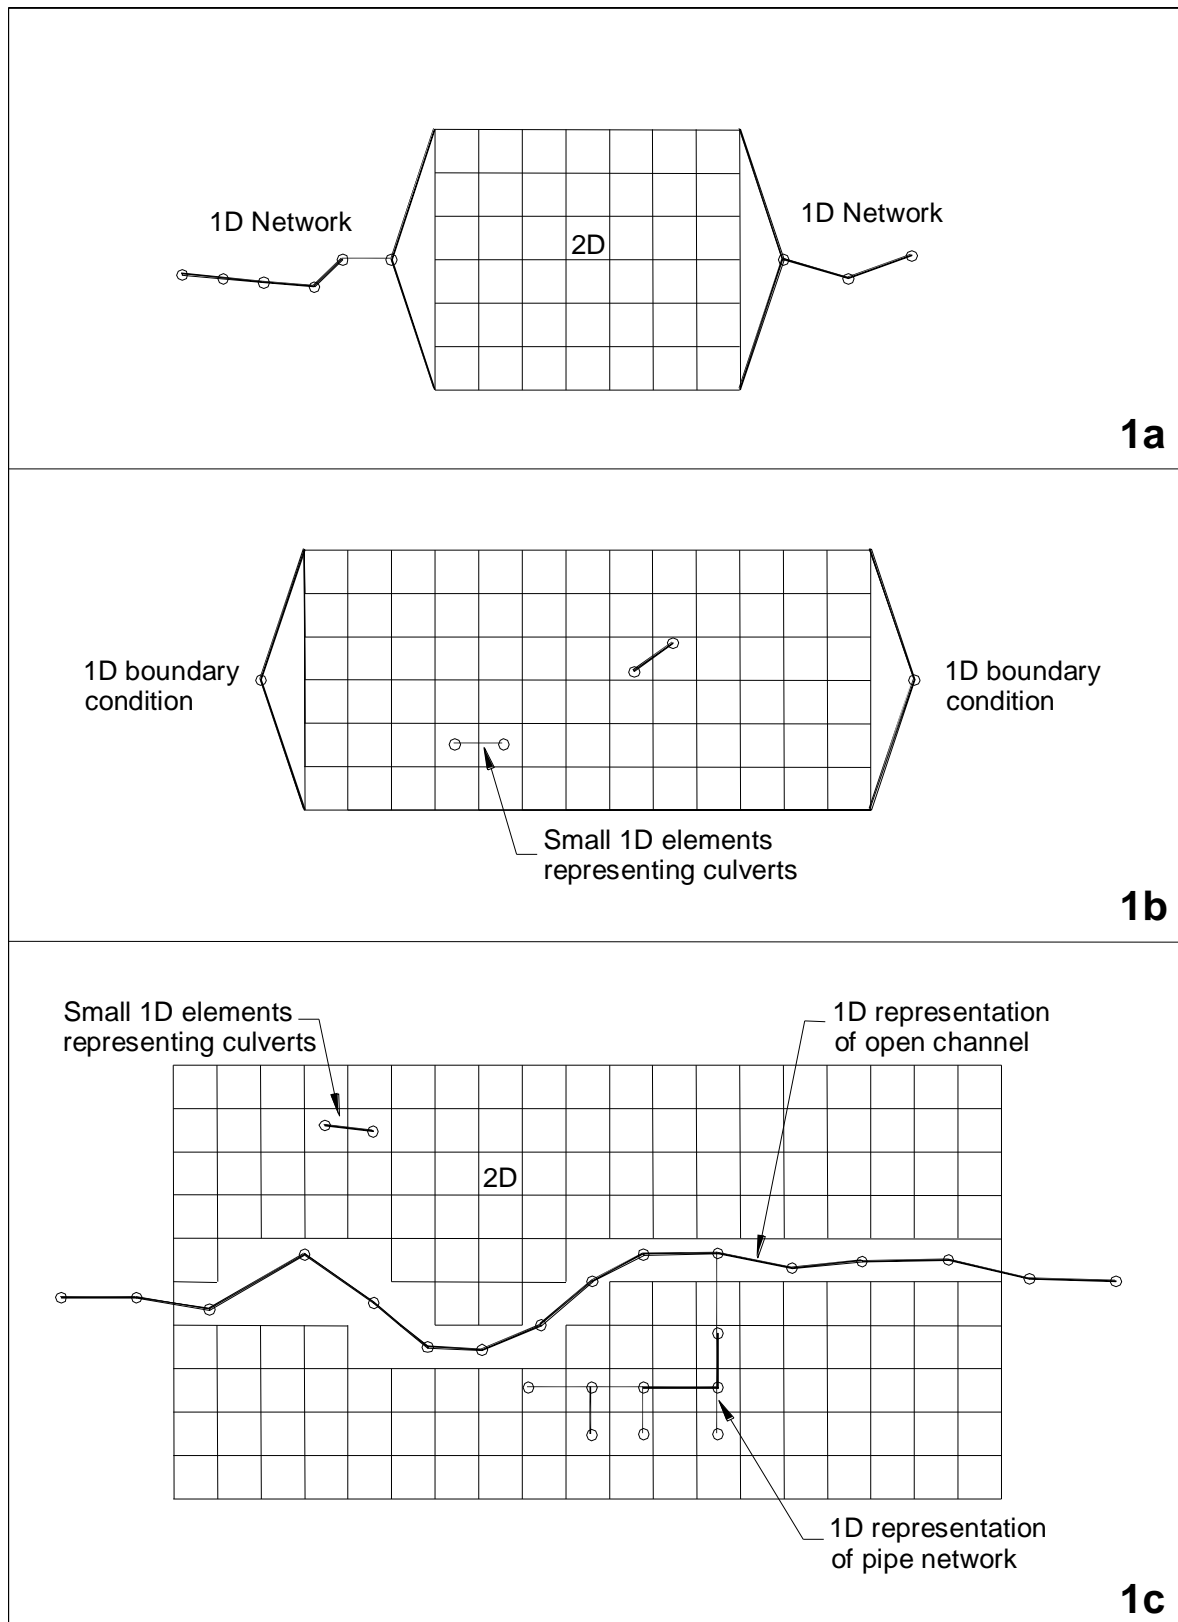
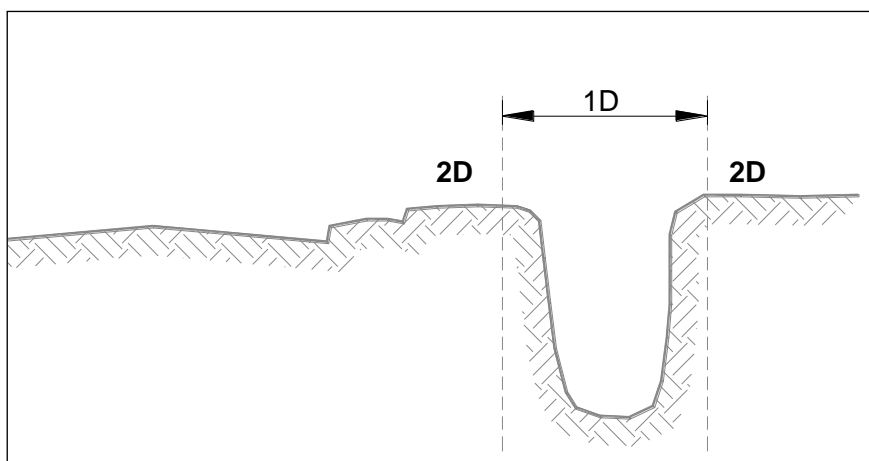
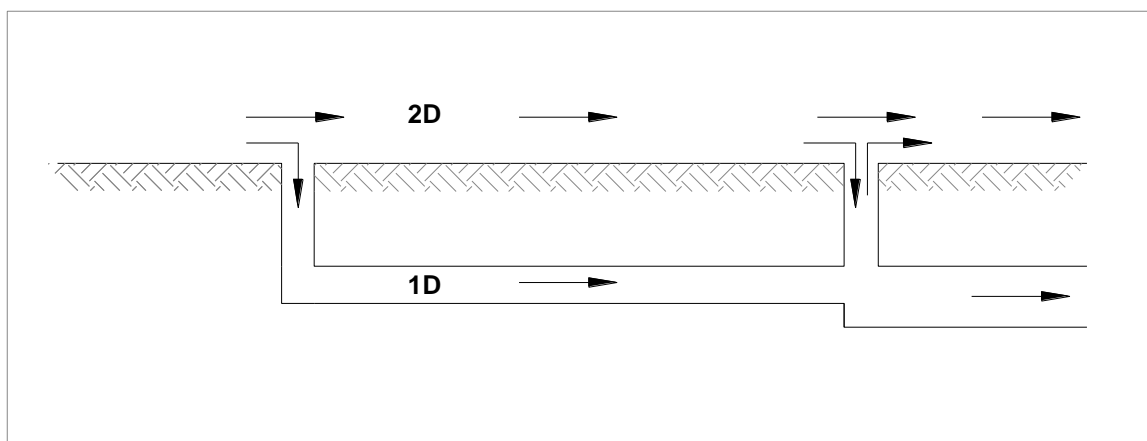
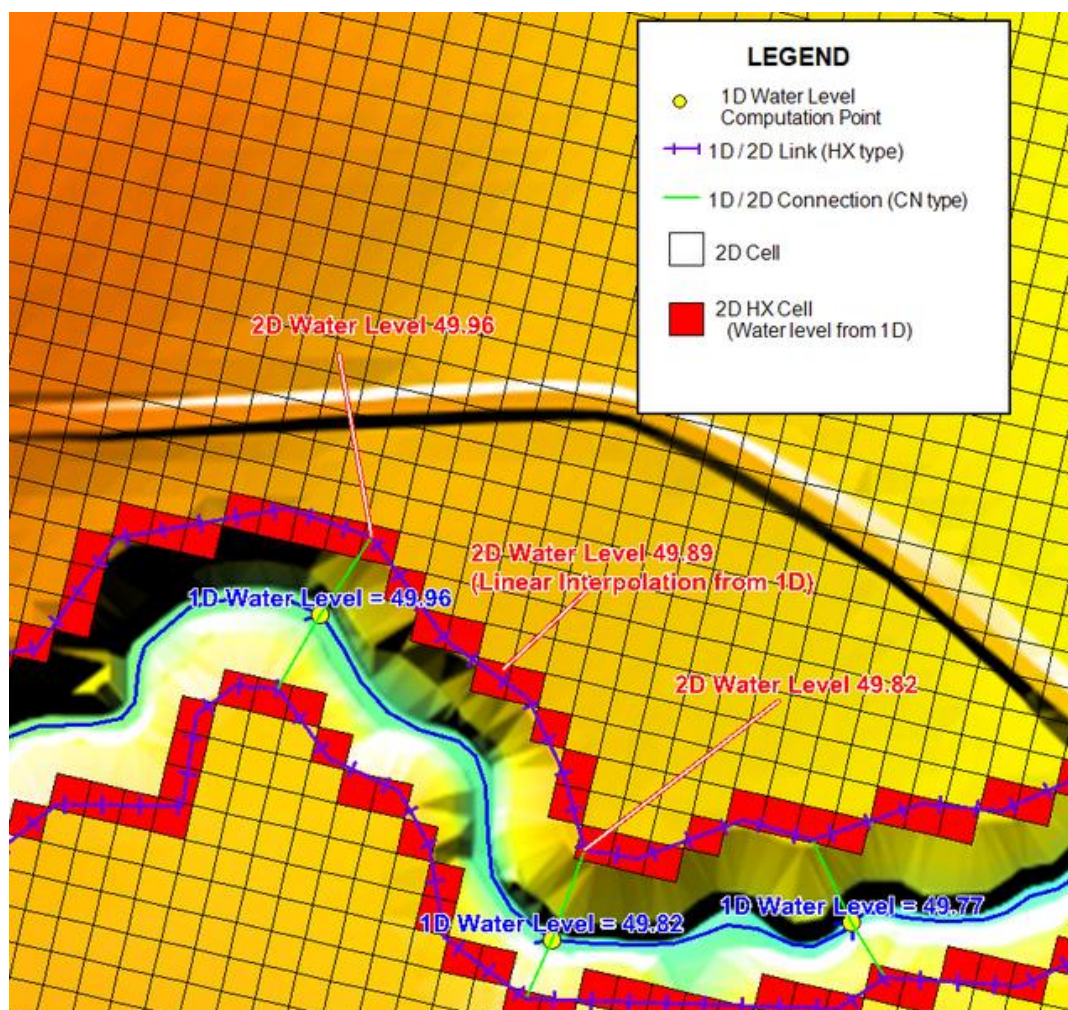

Figure 8-1 1D/2D Linking Mechanisms
Figure 8-2 Modelling a Channel in 1D and the Floodplain in 2D
Figure 8-3 Modelling a Pipe System in 1D underneath a 2D Domain
Figure 8-4 HX Schematic – Plan View
TUFLOW 1D and 2D domains can be linked in a variety of ways as illustrated in Figure 8-1 (Benham, et al, 2003). The simplest approach is to replace part of a 1D model by nesting a 2D domain inside the broader scale 1D model, as shown in Sketch 1a in Figure 8-1. This approach was developed by Syme (1991) and has been widely applied and ever since.
- 1D elements through 2D embankments (Sketch 1b in Figure 8-1).
- Nesting or “carving” of a 1D channel through a 2D domain (Sketch 1c in Figure 8-1 and Figure 8-2).
- 1D pipe networks underneath the 2D domain (Sketch 1c in Figure 8-1 and Figure 8-3).
The HX lines are connected to the 1D nodes via connection objects, these are CN type objects in the 2d_bc format layer. In Figure 8-4 the HX lines are shown as along the top of the channel as purple lines, the 1D nodes are shown in yellow and the CN lines in green. The CN lines are snapped to vertices along the HX line, at these vertices the water level is connected to the 1D node. Along the HX lines, between the 1D node connections the water levels are linearly interpolated, for this reason it is a minimum requirement that a HX line have a CN line connected to each of its end. If the same node is connected to the HX line at each end, as per diagram 1A in Figure 8-1, the water level in the 2D cells will be the same along the entire HX line and the line should be digitised perpendicular to flow.